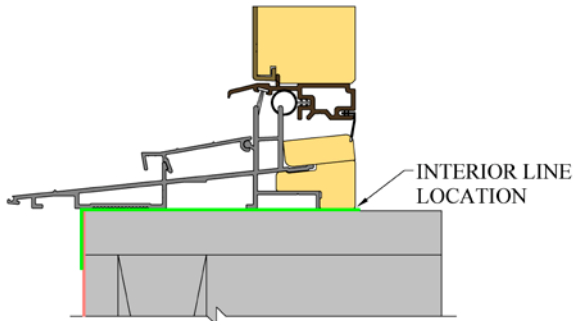

Fig. 17
- F) Test fit the unit in the rough opening and set the unit to the appropriate jamb depth. Once the correct jamb depth has been determined, draw a line along the inside of the sill on the subfloor. (Fig. 17)